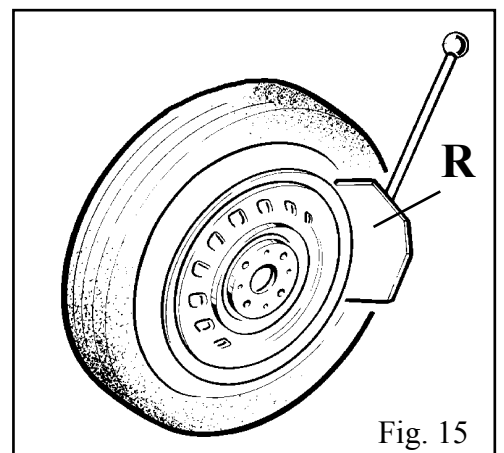

Fig. 15
- Position the wheel against the rubber stops on the right side of the tyre changer (S).
- Position the bead breaker blade (R) against the tyre bead at a distance of about 1 cm from the rim (fig.15). Pay attention to the blade, which must operate correctly onto the tyre and not onto the rim.
- Press down the pedal (U) to activate the bead breaker and release it when the blade has reached the end of its travel or in any case when the bead is broken.